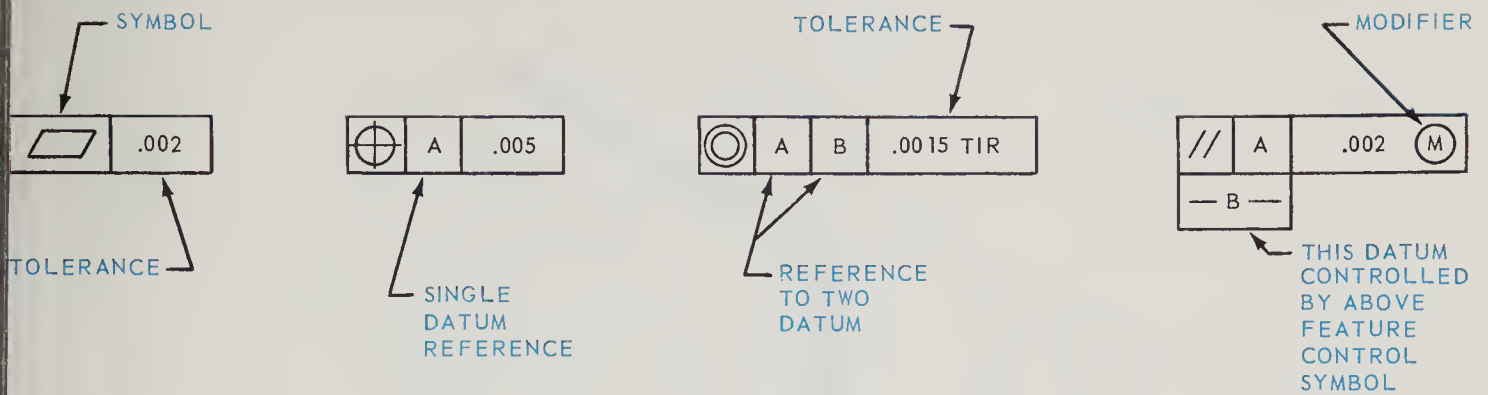

Fig. 20-4. Examples of feature control symbols.¹
FEATURE CONTROL SYMBOLS is a combined symbol which consists of a frame containing the geometric characteristic symbol followed by the datum reference (if any), by the permissible tolerance, and in some cases by the modifier (M) or (S), Fig. 20-4.